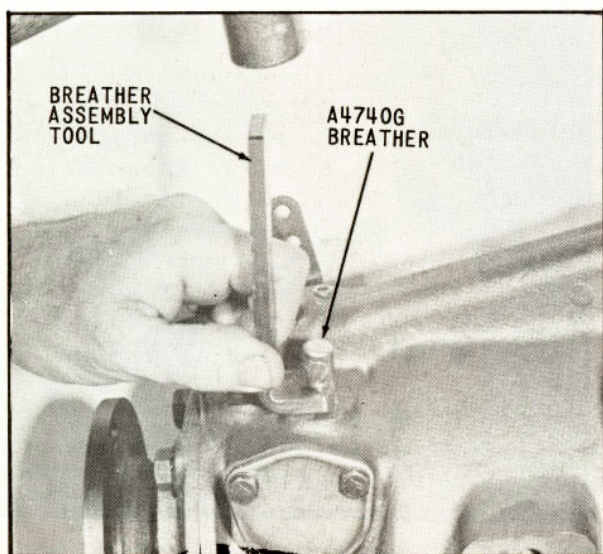
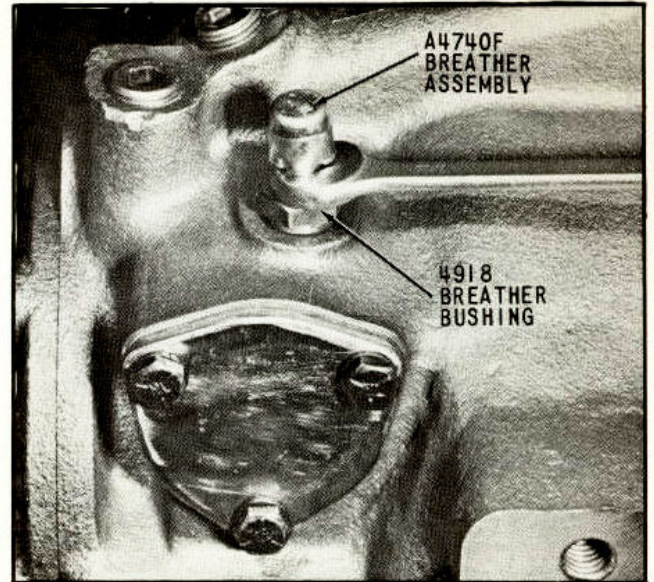
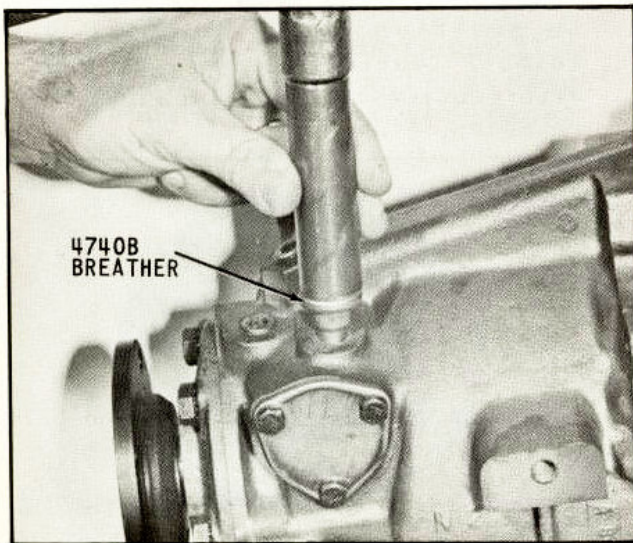

Fig. 75 Installation of Breather Assembly
Fig. 85 Adapting Breather Assemblies
Fig. 84 Installation of Breather Assembly
82. Install the breather assembly as shown in (Fig. 75). Do not hammer on the top of the breather assembly illustrated as this will damage the sealing element. For installation of other type breather assemblies see page 41, (paragraphs 3 & 4) for instructions.
- In addition to the breather assembly shown in (Fig. 75), other breather assemblies will be found in use as illustrated in (Fig. 84) and (Fig. 85). These illustrations demonstrate the manner in which the breather assemblies are installed.
- The breather in (Fig. 85) is supplied for those installations where a pressure type breather replaces the breather shown in (Fig. 84). This breather is used with an internally threaded bushing which presses into the case before the installation of the threaded breather assembly.